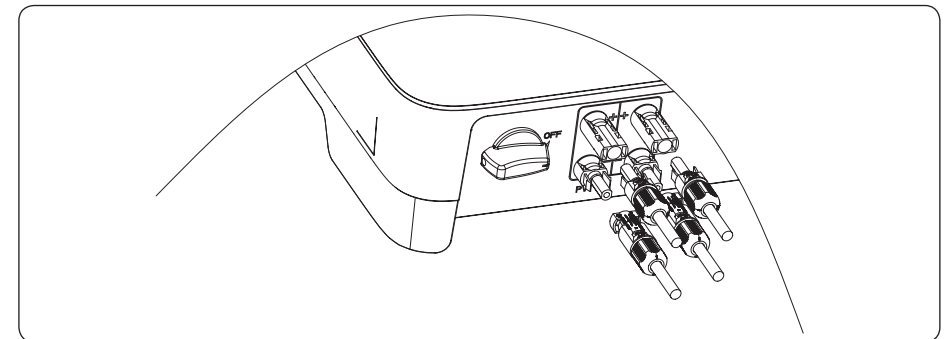

Figure 4-13
7) Insert the positive and negative connectors into the inverter DC input terminals respectively, a click sound should be heard if the terminals are well connected, as shown in Figure 4-13: